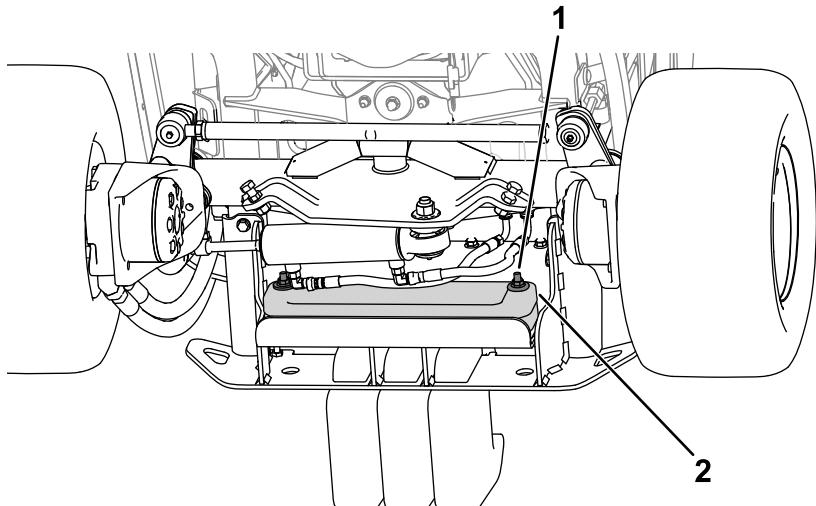

Figure 18
2. Use the hardware to secure the weights to the bumper (Figure 18).